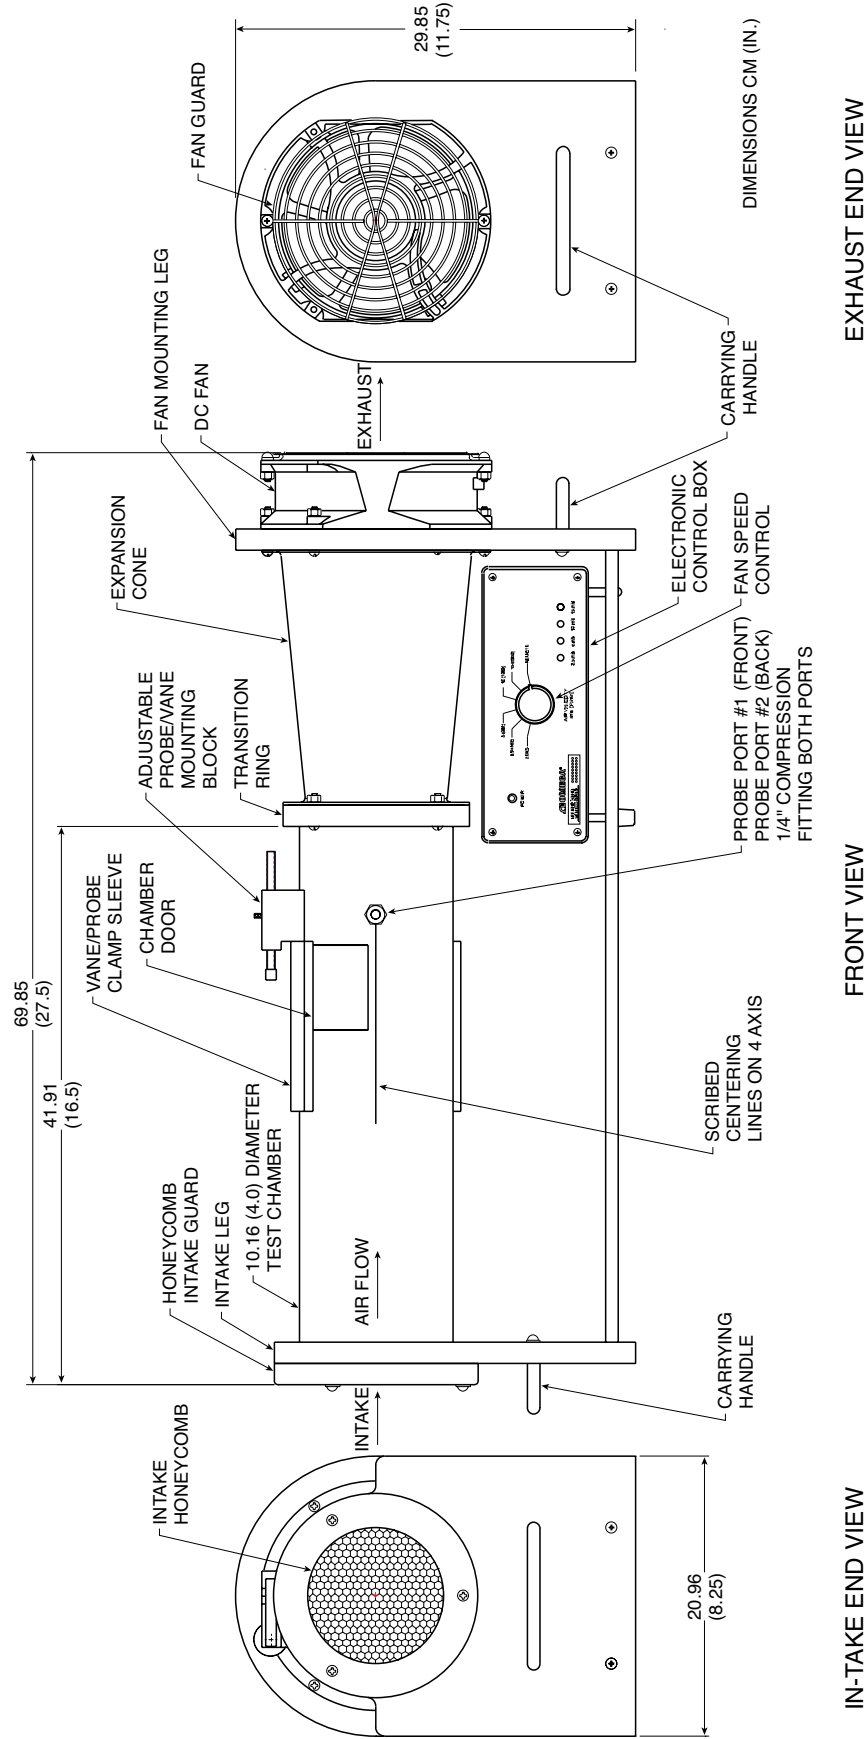
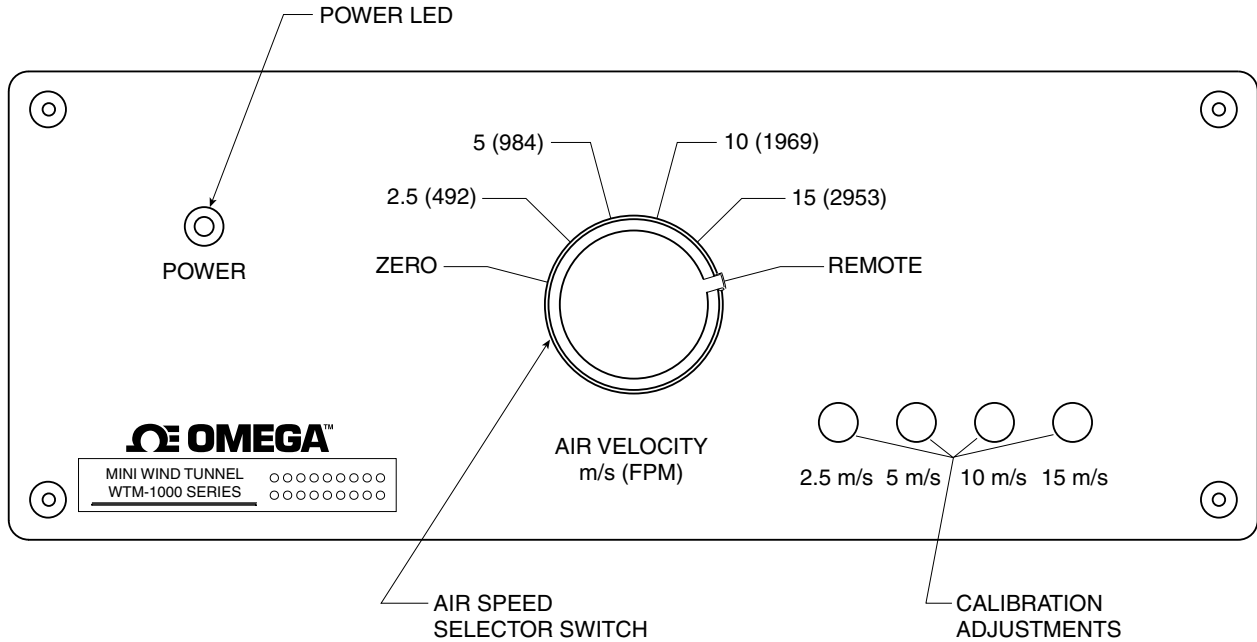
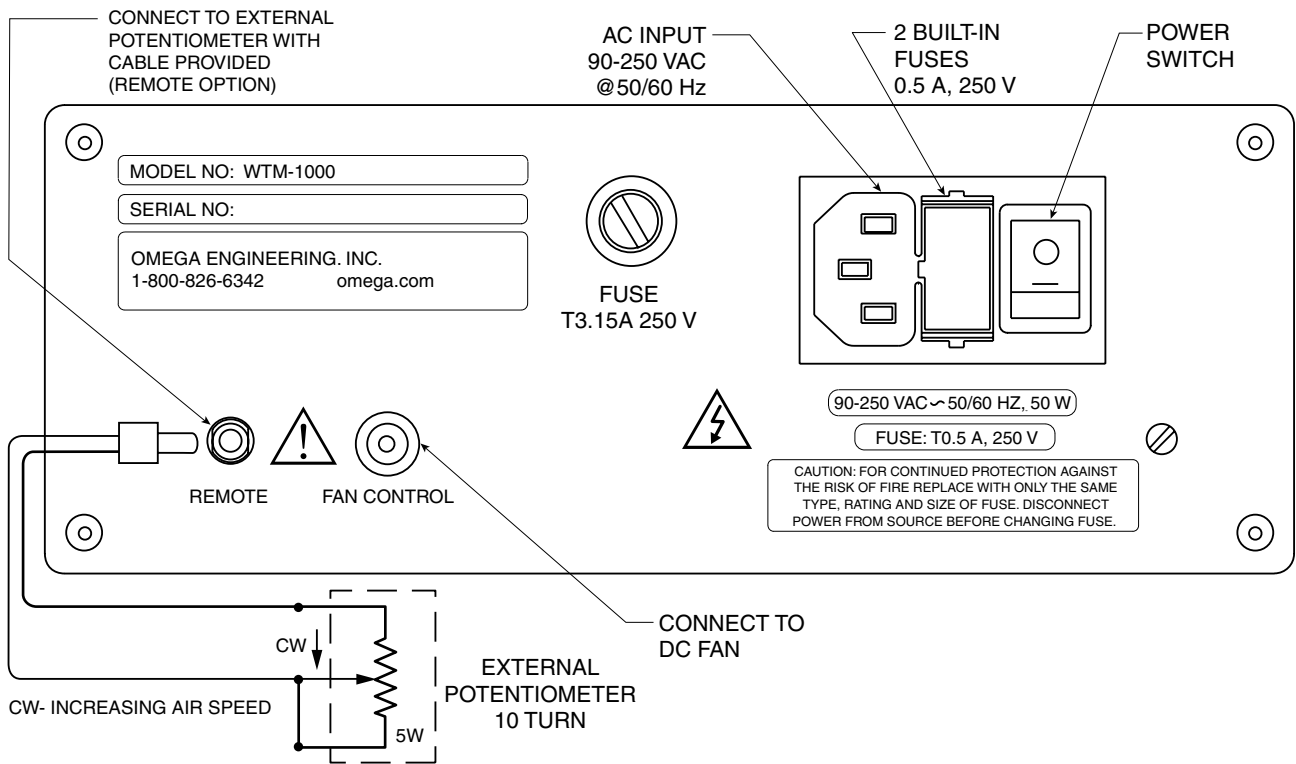

Figure 1 - Important Components of Mini Wind Tunnel and Overall Dimensions
Figure 2. Front Panel, Control Unit Box
Figure 3. Back Panel, Control Unit Box
Figure 1- Illustrates the important components of the wind tunnel as well as it's overall dimensions (page 3). Figure 2 - Shows the front panel of the Electronic Control Box (page 4). Figure 3 - Shows the rear panel of the Electronic Control Box (page 4).
- 2- Insert the air probe into Port #1 as shown in Fig 1. Port #2 is used to insert a reference air probe if desired.